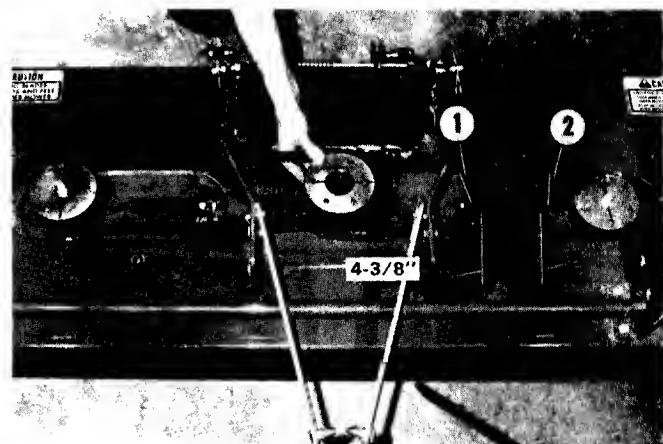

FIG. 10.1--REPLACING BELTS AND TIMING BLADES
1. Remove belt covers and measure length of spring, Fig. 10.1. If measurement is not 4.38", adjustment is necessary.
4. Loosen nuts, Fig. 10.1, completely which will allow springs, to move spindles outboard to tension belts.
5. Tap spindle housing, Fig. 10.1, under mower base with a hammer to overcome any friction at mounting bolts.
4. Adjust nut on belt tension bolt until length of spring is 4-3/8", Fig. 10.1.